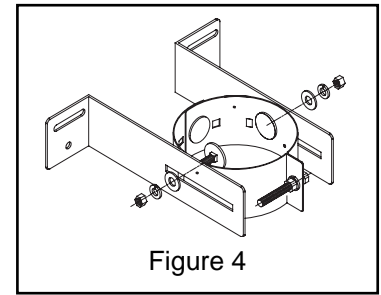

Figure 4
7. If you are going up on the outside of the wall you will need to install an Wall Support. Pre-assemble the support as shown on Figure 4. The collar is adjustable for a 3" or 4" chimney. Install the wall support on the vent. Tighten the band locking bolt just enough to hold the wall support in place.